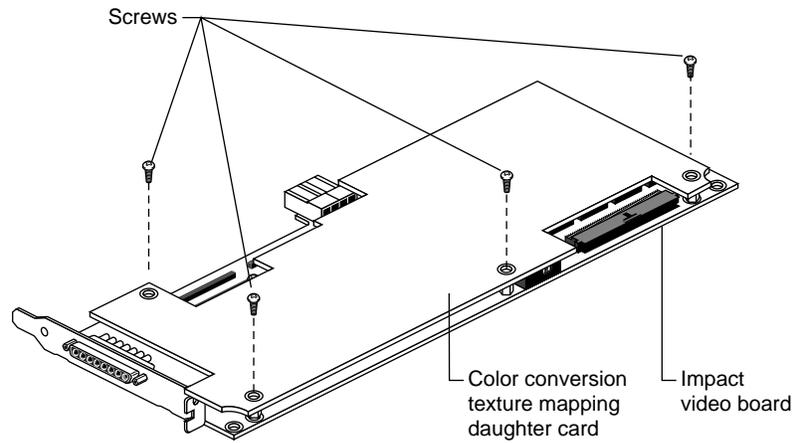

Figure 3-6 Insert the Screws into the Daughter Board
8. Insert the four screws that attach the daughter board to the video board. See Figure 3-6.